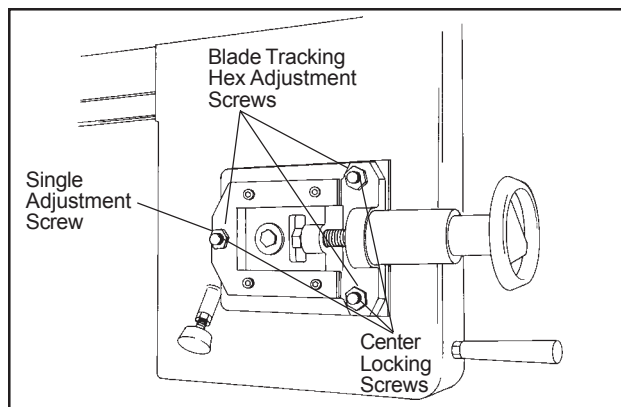

Figure 10: Blade tracking and tensioning
Blade tracking has been tested at the factory. Adjustment is rarely required when the blade is used properly or if the blade is correctly welded. (See figure 10 for location of blade tracking adjustment screws.)
5. Loosen the center locking screws in all three hex adjustment screws on the blade tensioning mechanism (see figure 10).